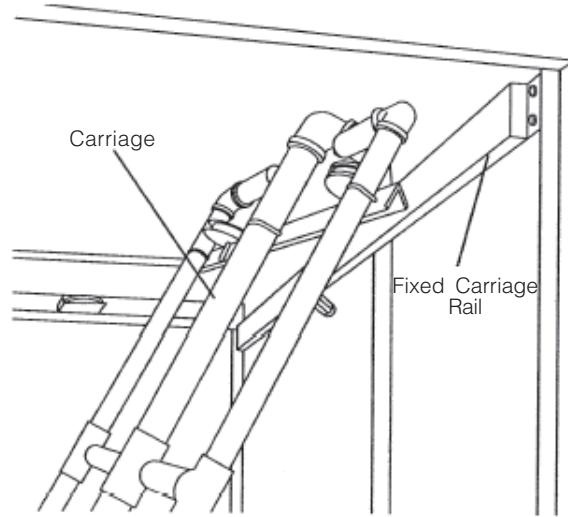

Figure 3-24. Position Carriage on Top of Fixed Carriage Rail
4. Position one side of the carriage on top of the fixed carriage rail (see Figure 3-24). Ensure eye bolts in center of carriage are facing down and the carriage hose connector is located on the same side as the cabinet hose connector.